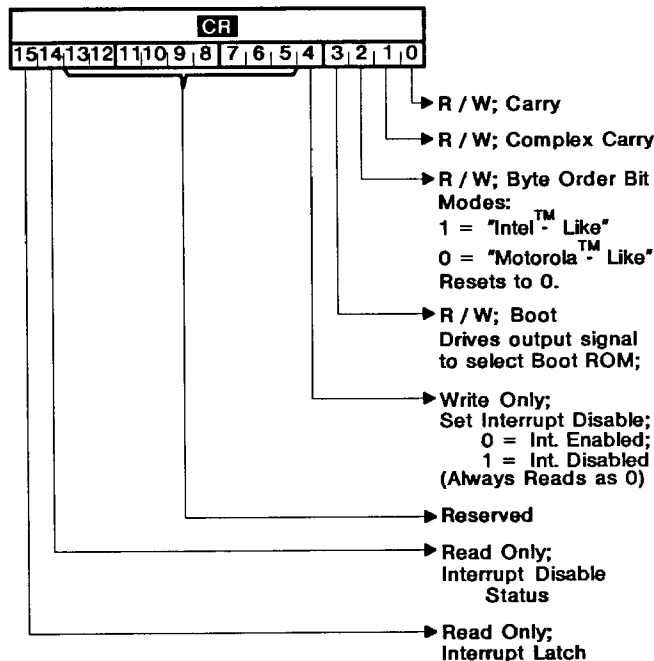

FIGURE 3. CONFIGURATION REGISTER ( **CR** )
**CR**: The **Configuration Register** contains bits which indicate the current status/setup of the RTX processor. See Figure 3.